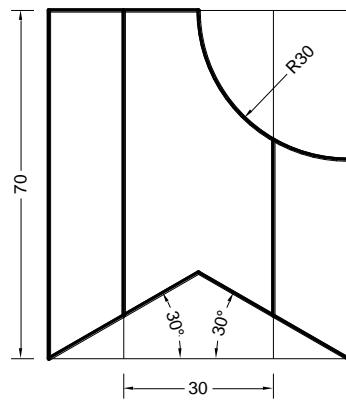

Fig.2
50. Draw the development of surfaces of portion-P of the cut hexagonal prism shown in Fig.2.
16. Draw the isometric view from the orthographic projections shown in figure 2.